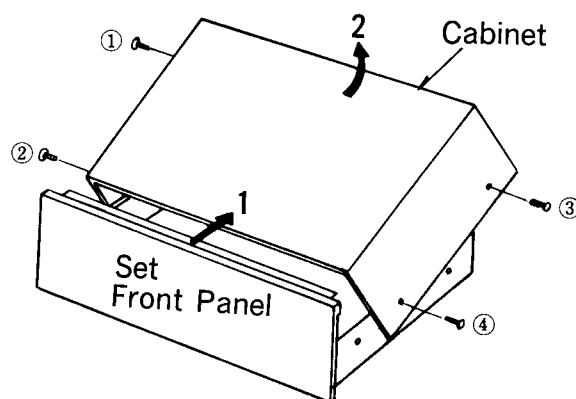

Fig. 1
1. Remove four (4) cabinet-mounting screws, nos. ①~④ as shown in Fig. 1.
2. Remove cabinet from chassis in arrow direction 1 to 2, as shown in Fig. 1.